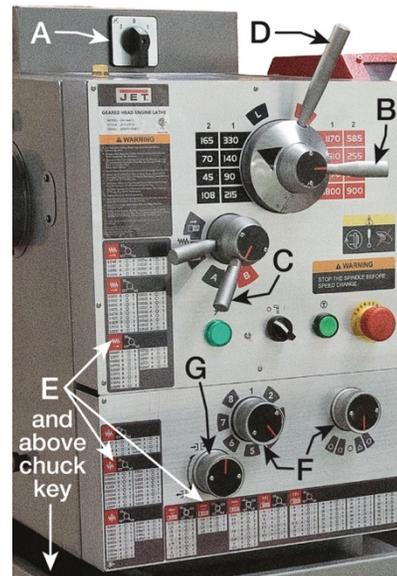

Figure 13-1 (model GH-1440-3 shown)
1. **Model GH-1440-3 only:** Move Step Switch (A, Figure 13-1) to either 1 or 2, to align with the High or Low RPM speed you want to run.
2. Move the High/Low Speed Selector Lever (B, Figure 13-1) to either the High or Low setting.
3. Move the RPM Speed Selector Lever (D, Figure 13-1) to the desired RPM.
1. Reference the Feed/Thread Tables (E, Figure 13-1). NOTE: Additional Feed/Thread Tables are located above the chuck key.
2. Move Auto Feed Rate Lever (C, Figure 13-1) to either A or B, according to the Feed/Thread Tables.
3. Move Feed Rate/Thread Selector Dials (F, Figure 13-1) to the appropriate positions, according to the Feed/Thread Tables.
4. Turn the feed on and off using the Feed On/Off dial (G, Figure 13-1).